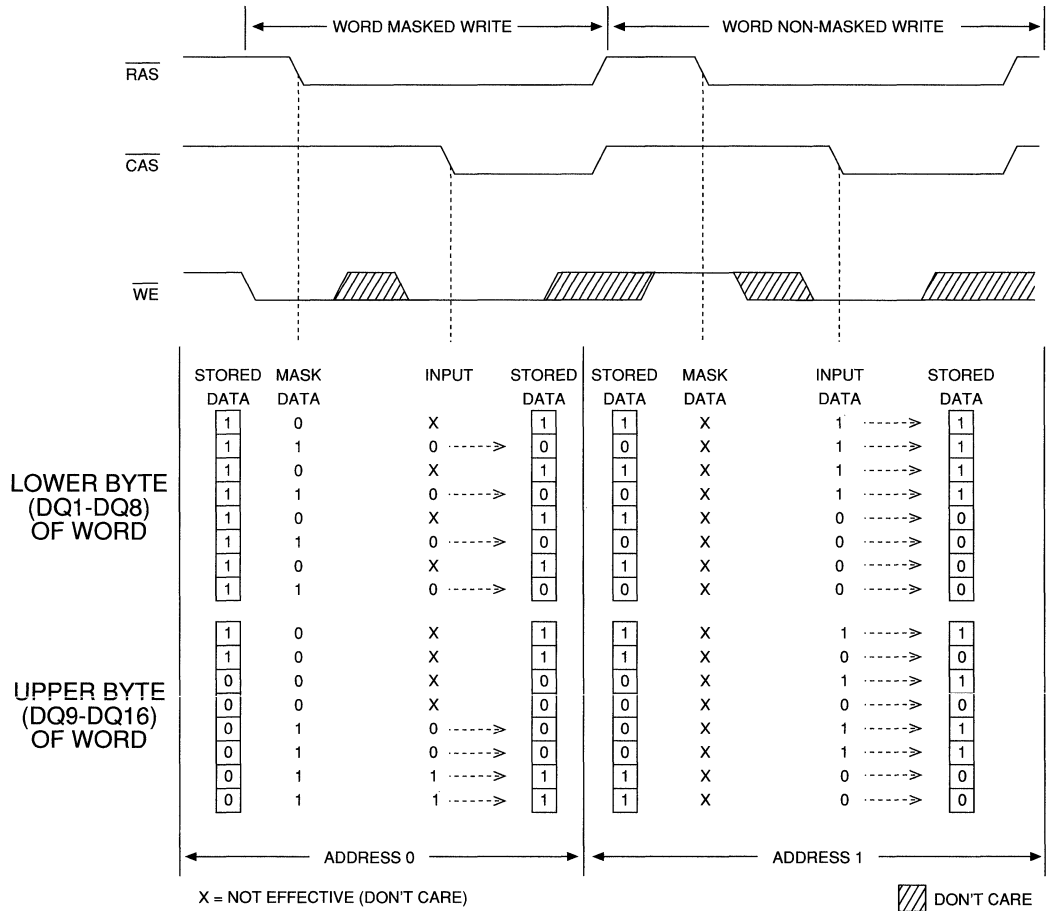

Figure 2
Figure 2 illustrates the MT4C1671 MASKED WRITE operation (Note: \overline{RAS} or \overline{CAS} time refers to the time at which \overline{RAS} or \overline{CAS} transition from HIGH to LOW).
1. Data-in will be dependent on the mask provided. Refer to Figure 2.